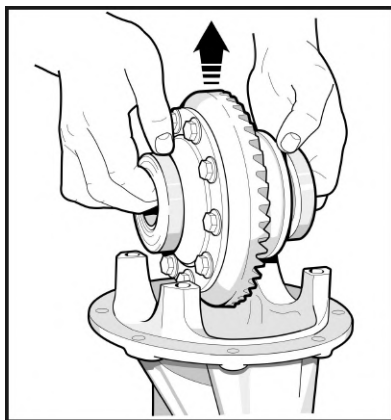

Fig. 7
1.11 Carefully remove the differential with the bearings. Keep the shim packs in their original positions to avoid mixing them up during reassembly. (Fig. 7)